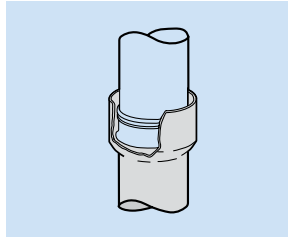

Fig. 68
- Place rubber seal ring over spigot to half depth of socket (Fig.68).